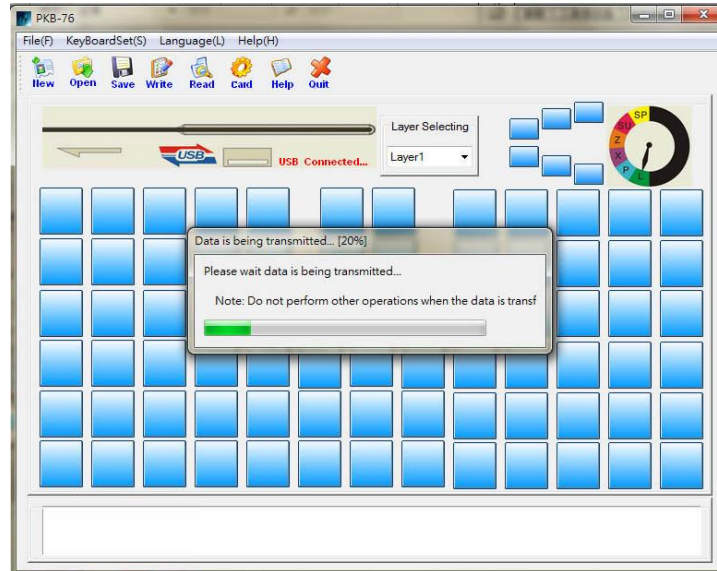

Figure 3.1.1
**Step 1.** Before programming any key, please read the default key value from your PKB-76 keyboard first by pressing **[Read]** button. It will pop up the dialogue that data is transferring, see *Figure 3.1.1*